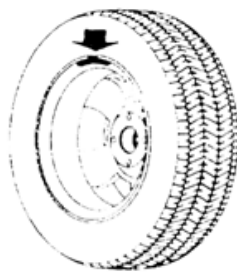

Figure 10-1
10.2.3 Slowly rotating wheel, when inside counterweight position indicator light all on, and show "OK", clip correspond counterweight on 12 o'clock position inside of rim, Figure 10-1;
- 10.5.3 Slowly rotating wheel, when inside counterweight position indicator light all on, and show "OK", clip the correspond counterweights on 12 o'clock position inside of rim refer to Figure 10-1.